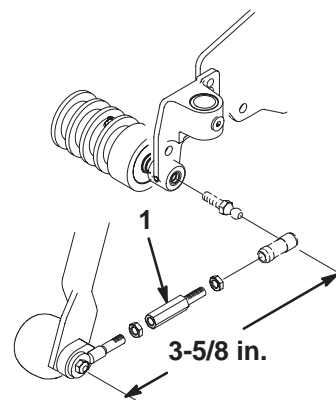

Figure 14
39. Remove the pull arm extensions (Fig. 14) before installing the groomer in the rear (#1) position. Reassemble to the dimension shown in Figure 14. (Pull arm extension removed).